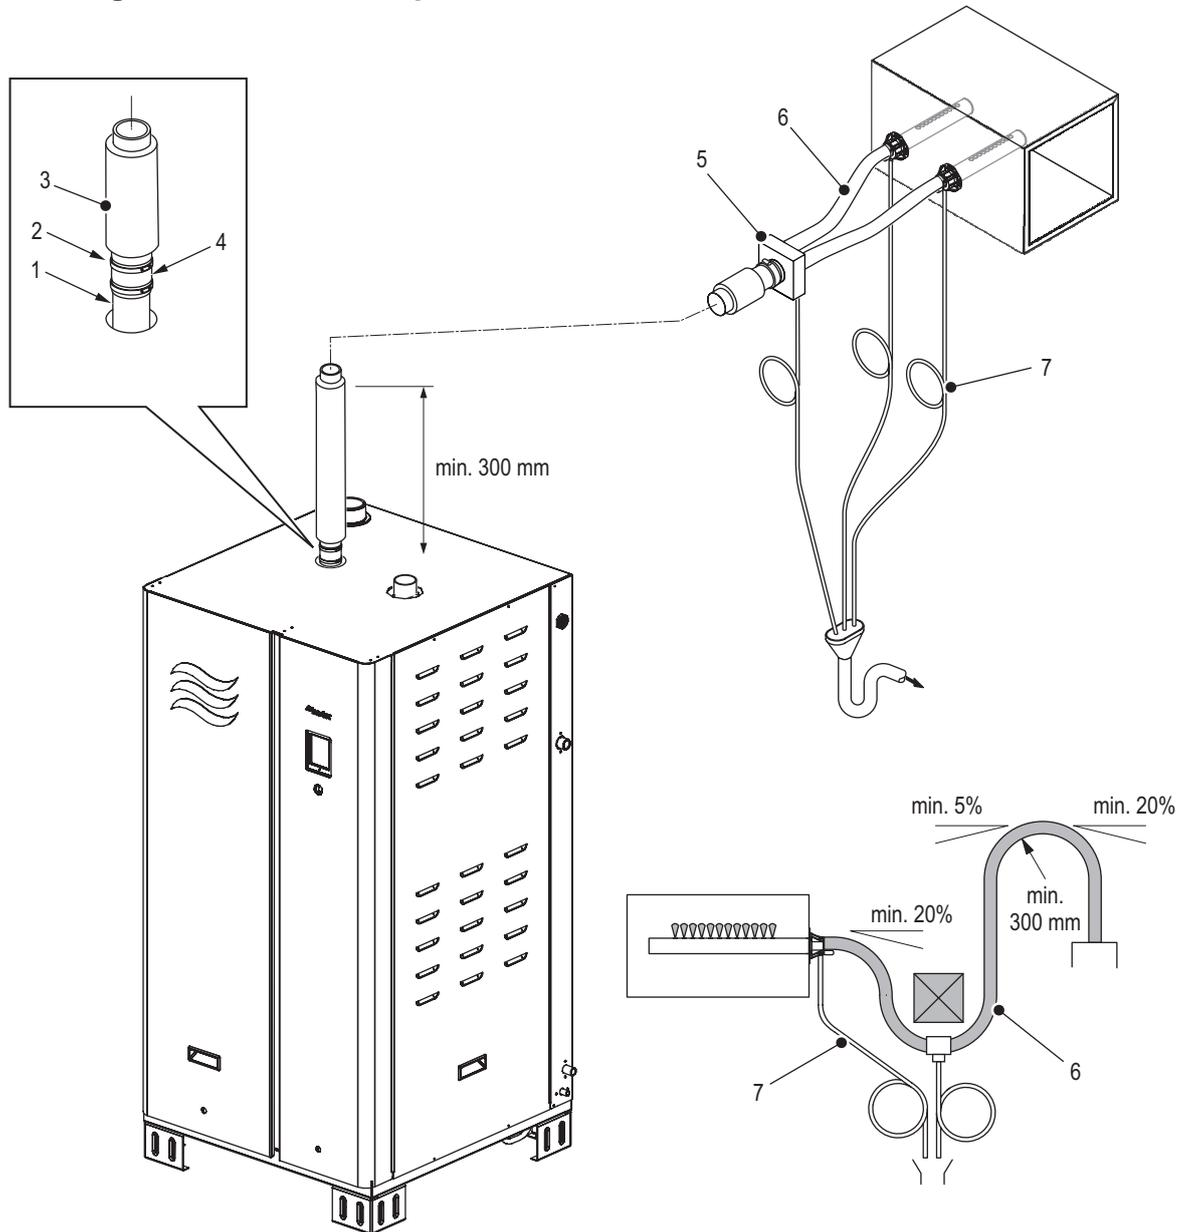
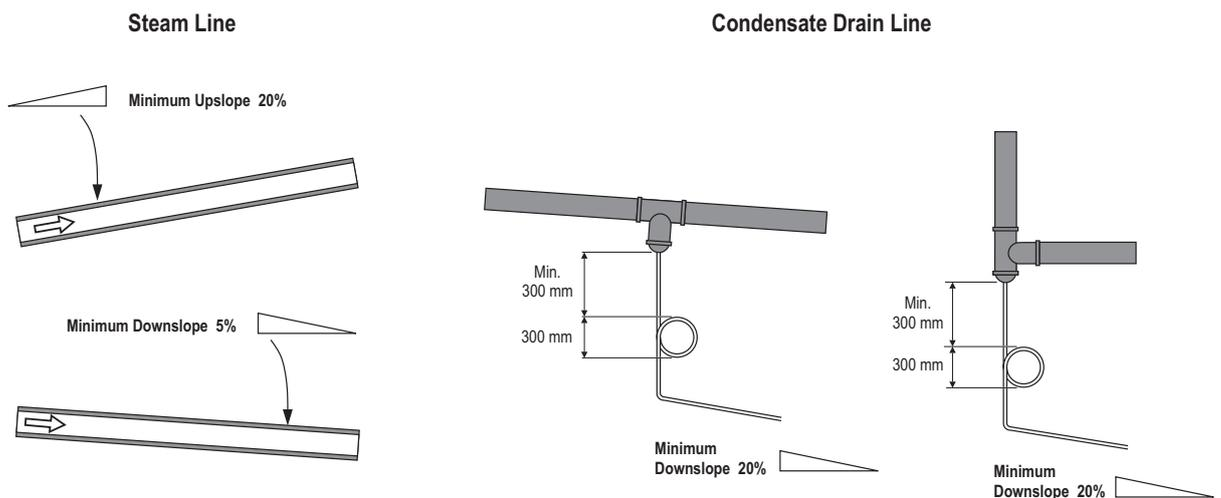

Figure 11: Main Steam Line Installation
Figure 12: Steam and Condensate Line Slopes
Refer to Figure 11 on page 29.
- The steam line from the humidifier must lead straight upwards for a minimum of 300 mm before continuing on to the steam distributor – refer to Figure 11 on page 29. The steam line must have a minimum upslope of 20% or minimum downslope of 5% to the steam distributor – refer to Figure 12 on page 31.
- Condensate traps must be installed at all low points, and at horizontal-to-vertical transitions in the steam line. The condensate drain lines should always connect to full-size "Tee" connectors in the steam line. Refer to Figure 12 on page 31.